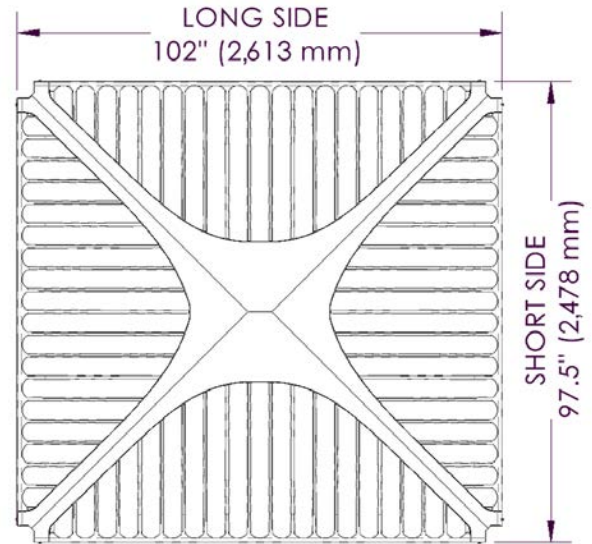

FIGURE 34: RECTANGULAR COVER
2. Install the top section of the cover on the spa and center it as best as possible. Measure the spa dimensions and align the long side of the cover with the longest side of the spa see Figure 34. If a LED light kit is included, the light switch should be placed on the entry side of the spa.
The cover is rectangular Figure 34. The standard model will need the motor frame to be on the short side of the cover, whereas the long-side will need the motor frame on the long side of the cover.